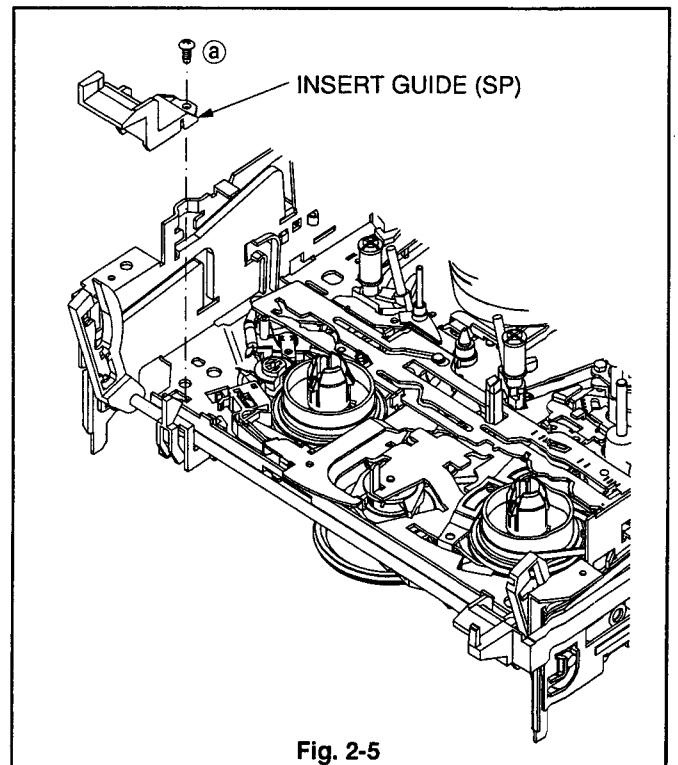

Fig. 2-5
1. Remove the screw (a) fastening the INSERT GUIDE (SP) shown in the Fig. 2-5 to remove the INSERT GUIDE (SP).
1. Install the INSERT GUIDE (SP) shown in the Fig. 2-5.